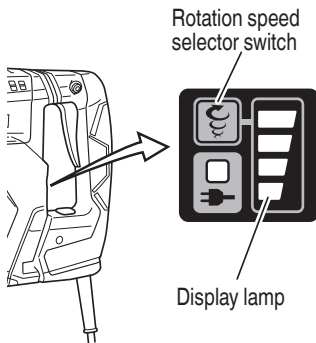

Fig. 4
- 8. Regulating the number of rotations and hammering (Fig. 4)